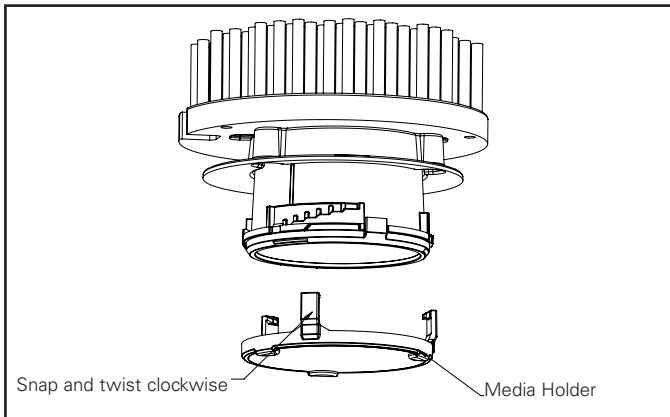

Figure 8.
2. Also available is a single/double media holder. To install, place the media onto the media holder. Engage snaps at bottom of snap staircase. Twist clockwise until tight (Figure 8).